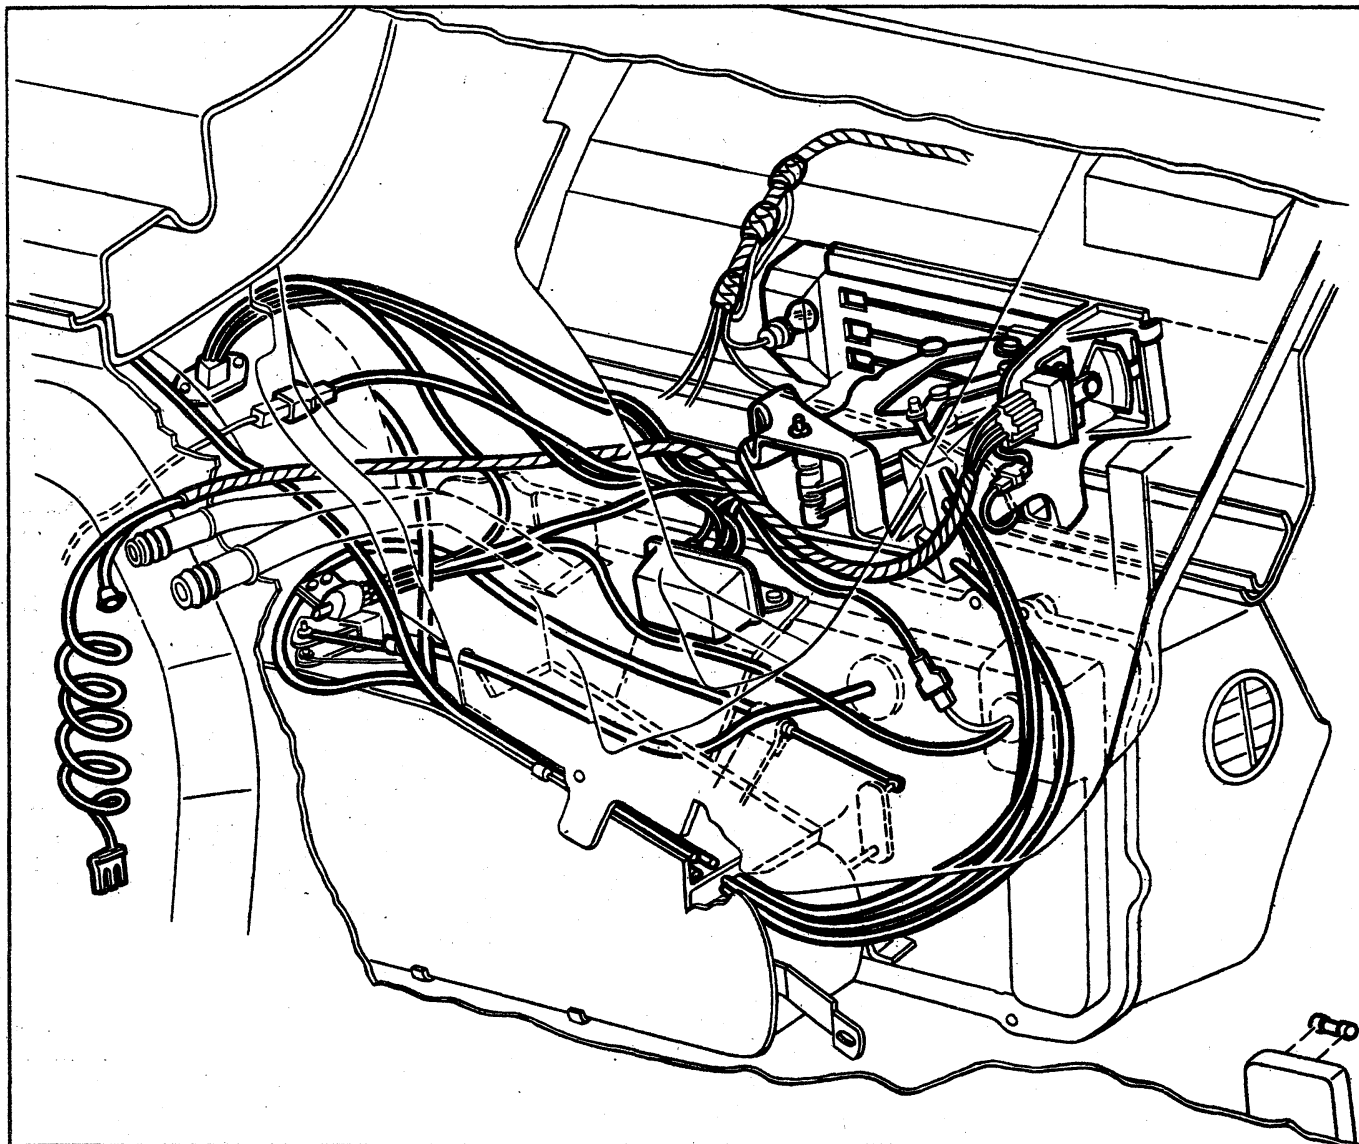

Fig. 77—Underdash Wiring—All Weather
10. Disconnect wiring connectors (see fig. 77) as necessary and remove the evaporator unit from the vehicle.